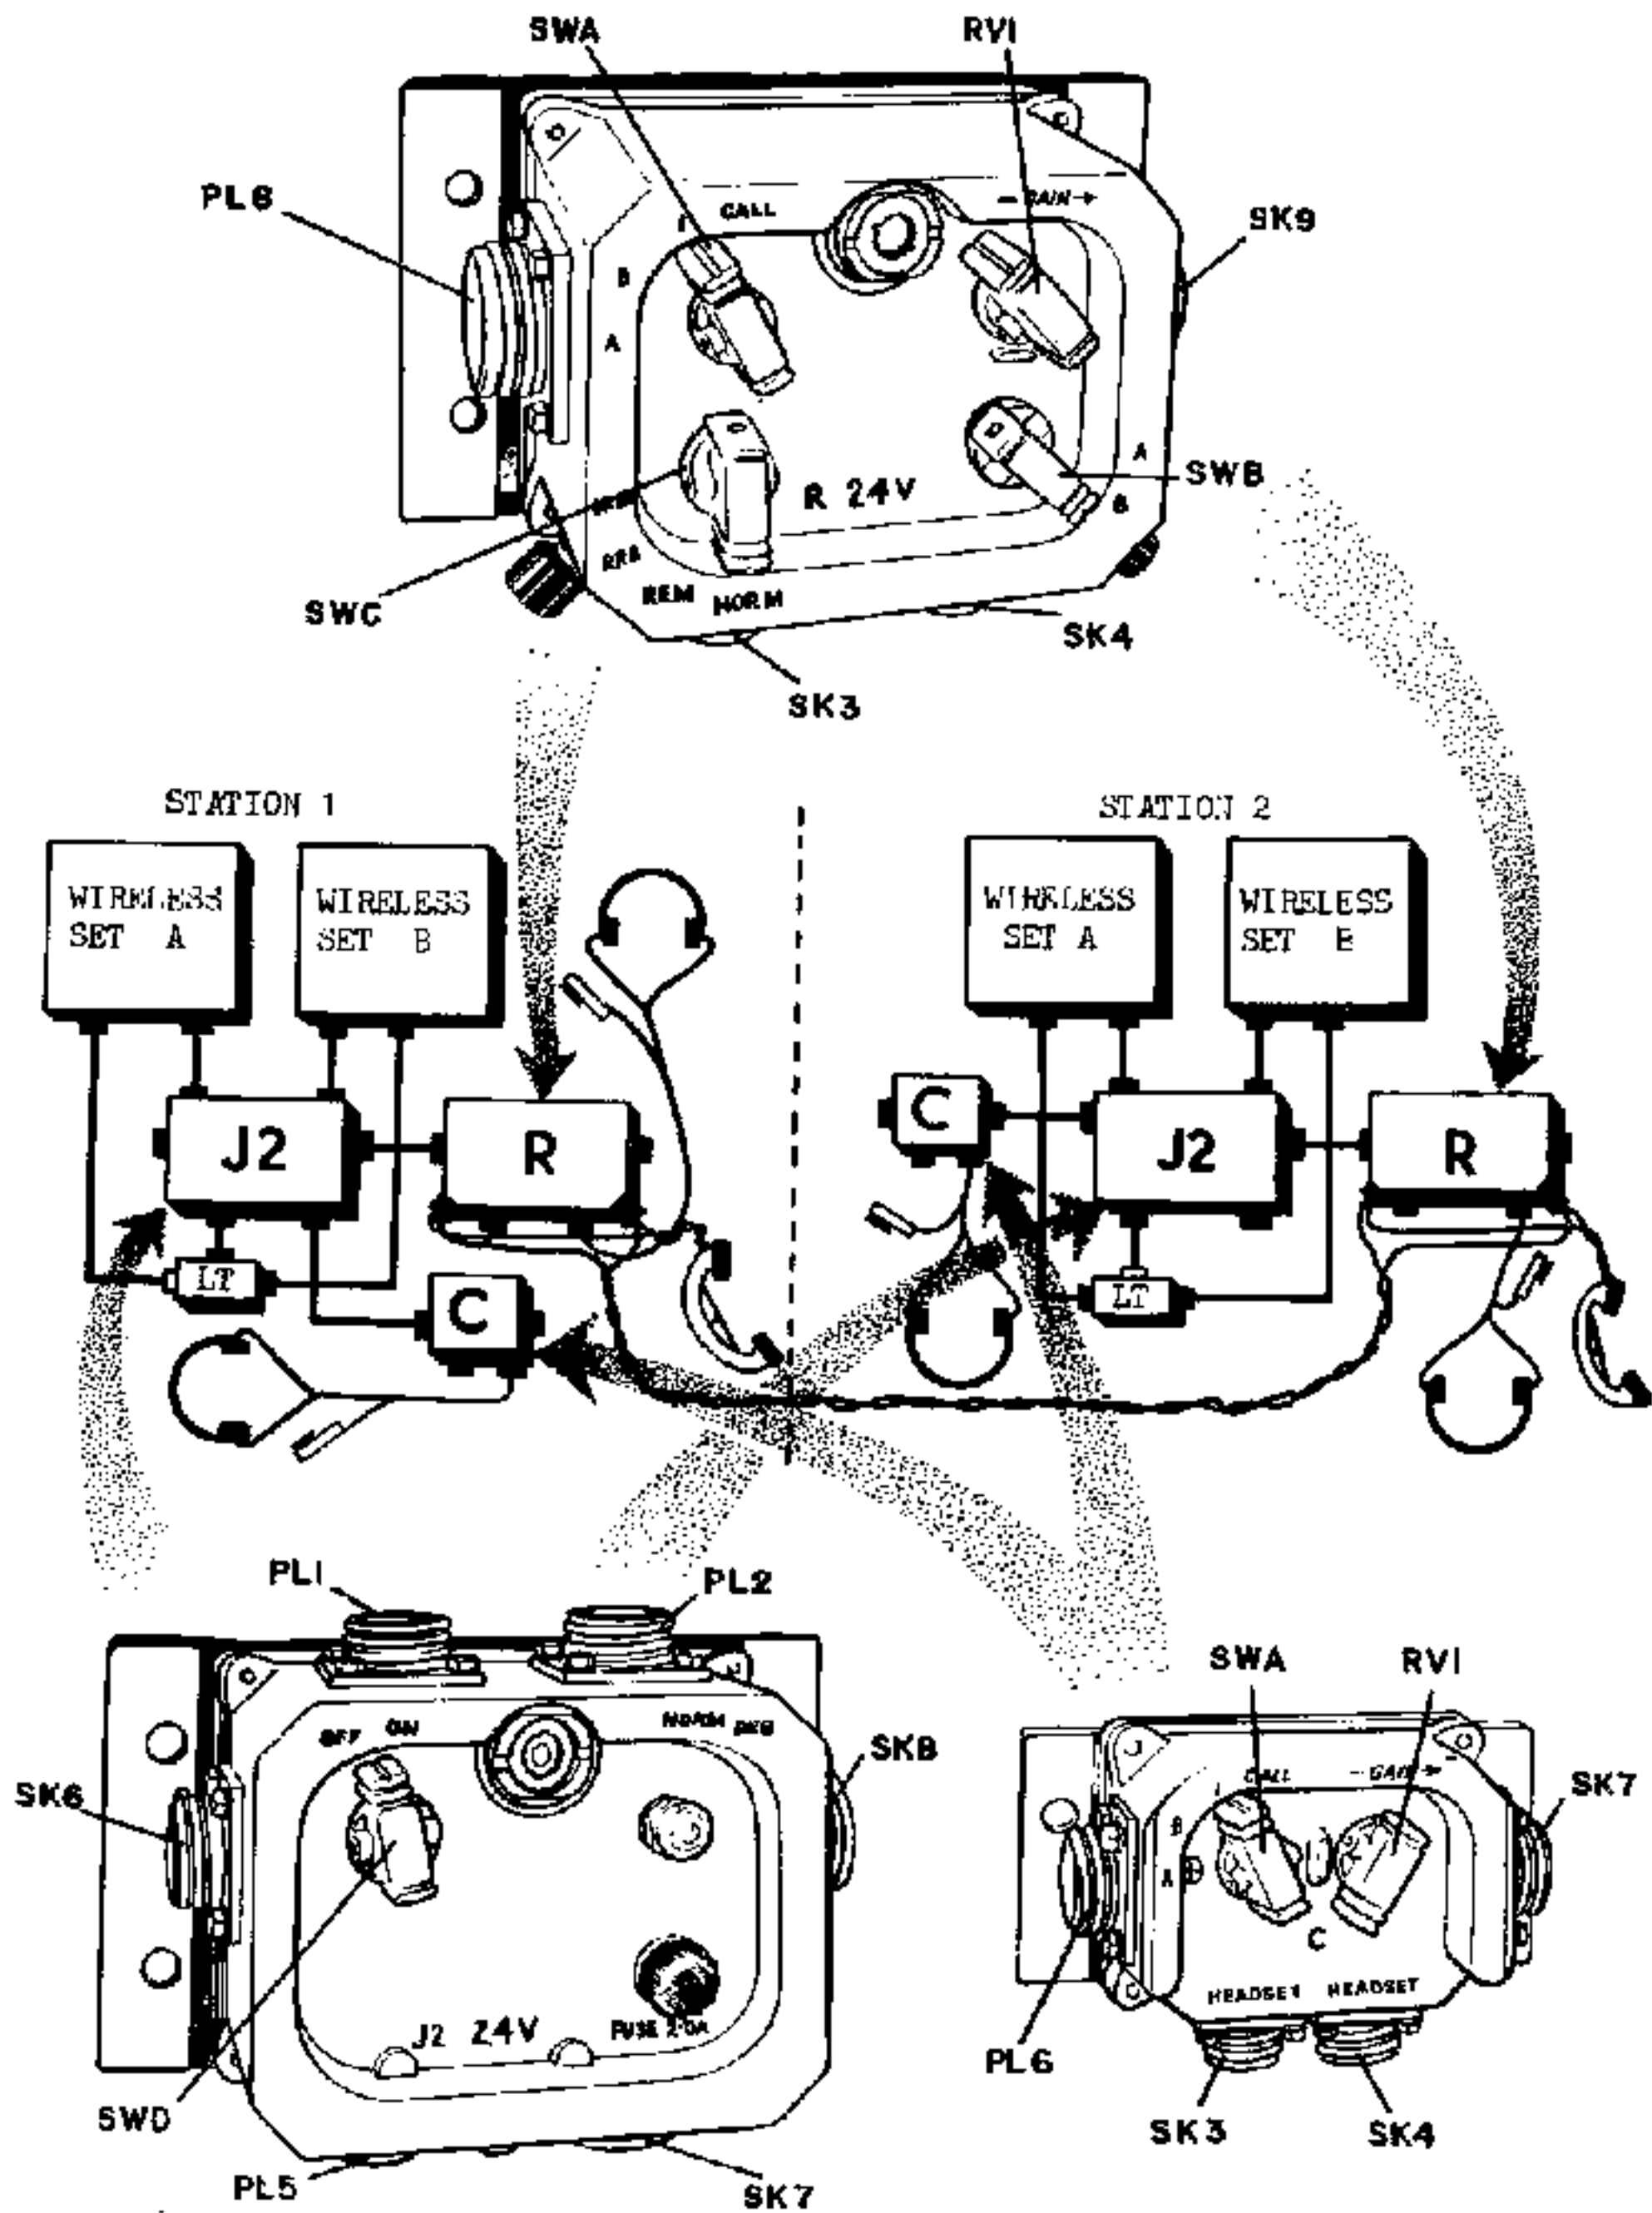

FIG 20-A TWO SET INSTALLATION WITH REMOTE REBROADCASTING
- (b) Referring to Fig 20 turn switches SWA on control units 'C' and 'R' to 'I'. Turn switch SWC on unit 'R' to NORMAL. On junction box 'J2' the screwdriver operated switch SWB is pre-set to 'NORM'. Disregard switch SWE on both control units 'R'. Intercommunication is now possible between operators at units 'C' and 'R', but the remote control cable is disconnected at each end.
- (d) When setting up for remote rebroadcasting an alternative method of intercommunication between the two stations can be provided by the use of two remote handsets. Having attached the remote control cable to the terminals on each unit 'R', connect a remote handset to the same terminals on each unit 'R' as shown in Fig 20. At station 1 turn switch SWA on unit 'R' to 'I' and SWC to remote. At station 2 turn switch SWC on unit 'R' to NORMAL and disregard switch SWA. This avoids the use of an IC amplifier at station 2. Station 1 can use a standard headset if required. Do not speak on the remote handsets with the switches at RRB or the conversation will be radiated.
108. (a) Referring to Fig 20 turn switch SWC on both remote control units 'R' to NORMAL to disconnect the remote control cable terminals. Turn switches SWA on control units 'C' and 'R' to position 'A' or 'B' according to which wireless set is to be used. On Junction box 'J2' turn switch SWD to ON, and ensure that the screwdriver-operated switch SWB is at 'NORM.' Disregard switch SWB on both Control units 'R'.
- (b) Refer to Fig 20. In station 1, turn switch SWB on remote control unit 'R' to position 'A' or 'B' according to which wireless set is to be used in the rebroadcasting link. Similarly select the wireless set to be used in station 2 by means of switch SWB on remote control unit 'R' in that station.